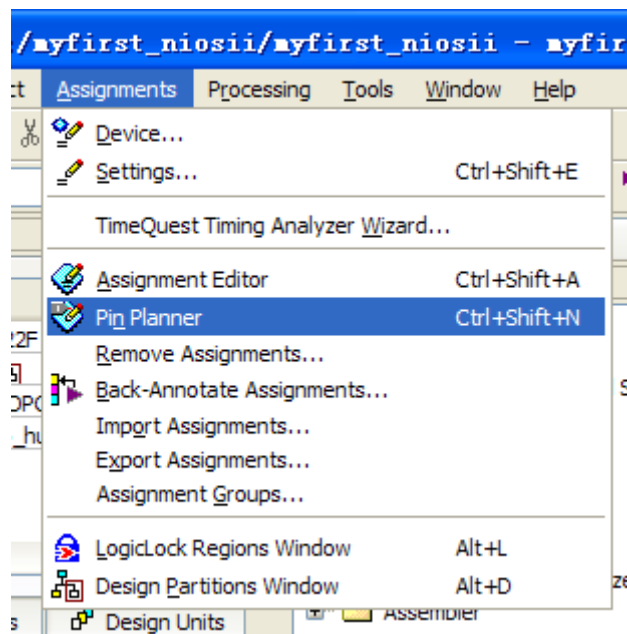

Figure 7-50 Pins menu
45. Choose **Assignments > Pins** to open pin planner as shown in **Figure 7-50**. **Figure 7-51** show blank pins.